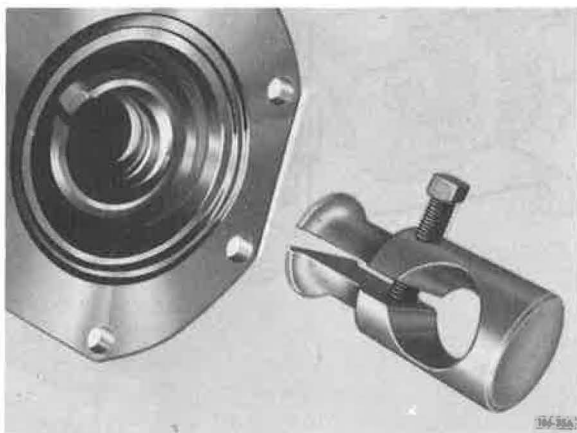

Figure 101. Installing Tool
1. Insert sleeve remover J-23387-01 in cover, place spreader jaws behind oil seal, then tighten setscrew to expand the jaws and grip the rear of the seal. See Figure 101.